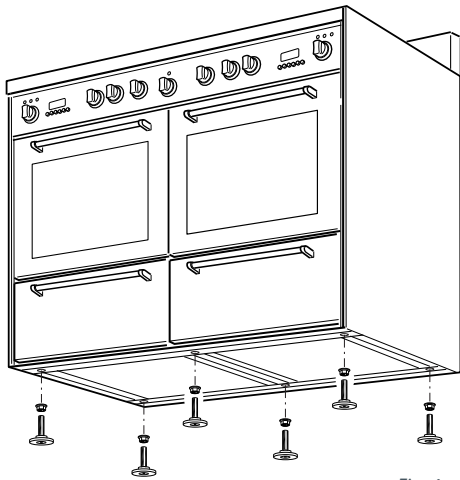

Fig. 4a
- Make sure you follow the instructions in Figs. 4a, 4b, and 4c.